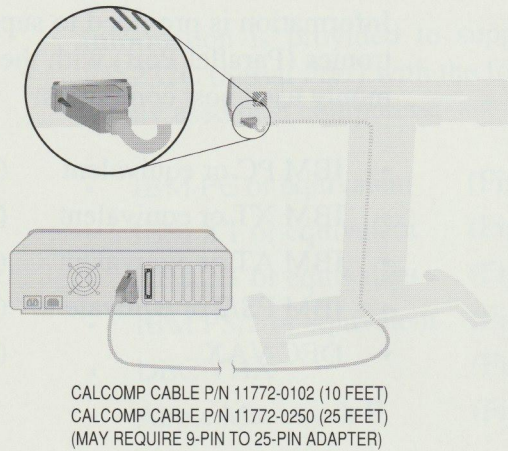

Figure 2-3. RS-232C (Serial Port) with IBM PC, XT, AT, or Equivalent
- IBM PC or equivalent (Figure 2-3)
- IBM XT or equivalent (Figure 2-3)
- IBM AT or equivalent (Figure 2-3)